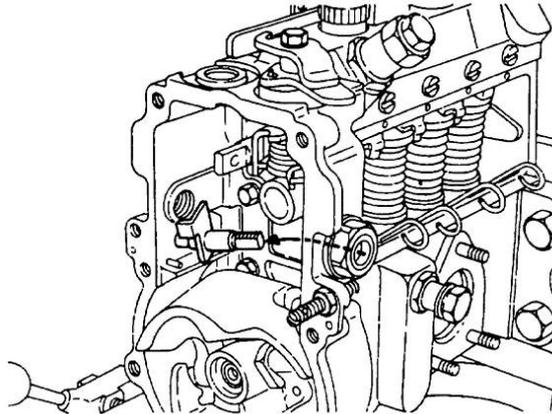

Figure 94 Removal of the Full-load Setting Lever Shaft
- q.** Remove the U-shaped lever guide plug from the side of the governor housing. Remove the U-shaped lever and the full-load setting lever shaft and cancel spring (Figure 94).